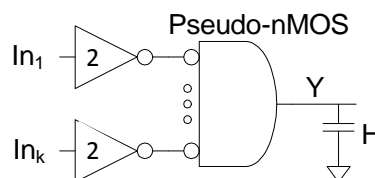

Fig. 14
15. Design a 16-input ( $k=16$ ) AND gat using inverter and pseudo-nMOS NOR gates as shown in Fig. 14. Choose pull-up device size to be  $2/3$  and the output loading  $H = 64$ . (5%)